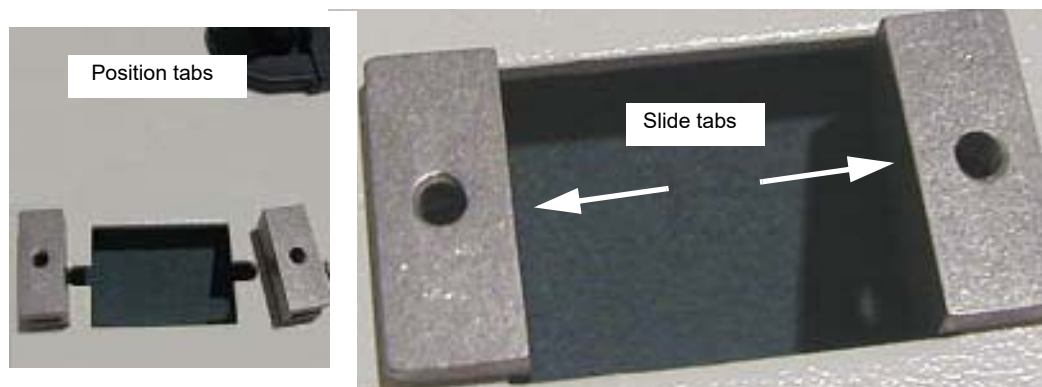

Figure 2-19 Installing Video Connector Tabs
- 5.) Place the connector tabs onto the cover plate in the location for the video cabling. Firmly slide them into place so that the slot in each tab fits over the plate and their holes line up with the holes in the cover plate. (See Figure 2-19.)